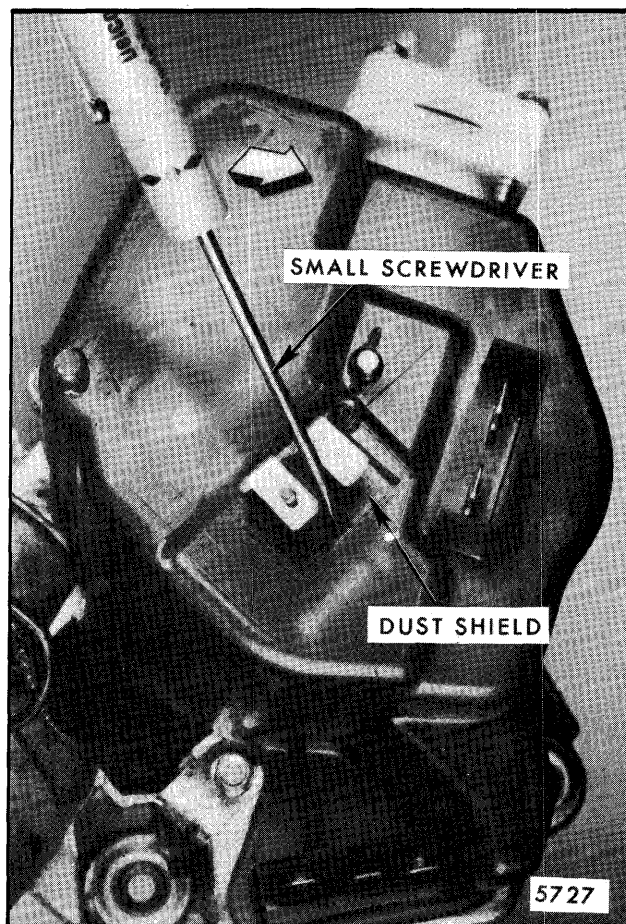

Fig. 2-76-Washer Pump Cover Removal
2. Remove plastic tab from terminal 6 and 7 opening and pull plastic cover off mounting post (Fig. 2-76).